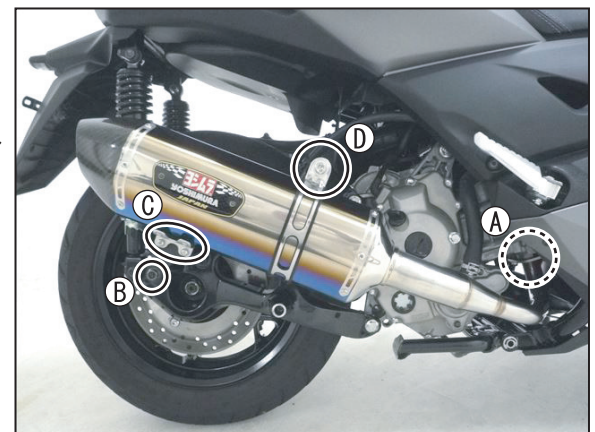

FIG. 9
- 7) Check that there are proper clearances between Yohimura Exhaust System and other components, and adjust the position and angle of Silencer Assy. Then, tighten and torque stock nuts on flange, Stock Bolt at Silencer Bracket, Button Bolt M6x20 at Silencer Bracket and Cap bolt M10x55 at Silencer Band in order (See Fig. 9)